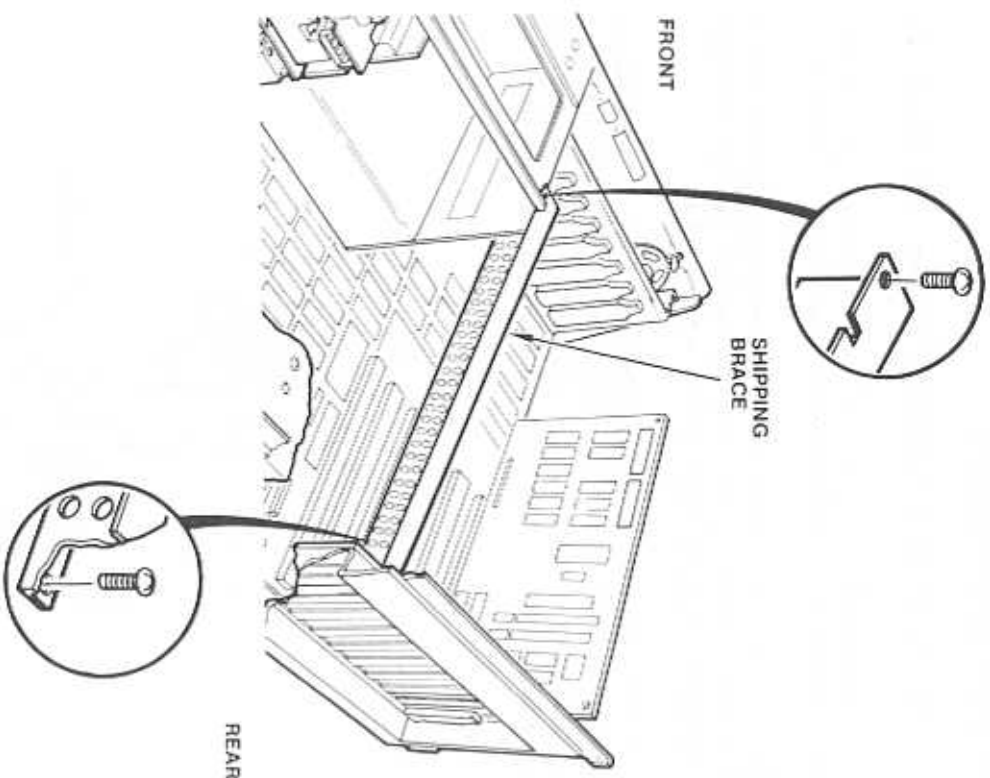

Figure 3-5. Removing the Internal Shipping Brace
1. Remove the two screws on the brace and remove the brace (Figure 3-5).